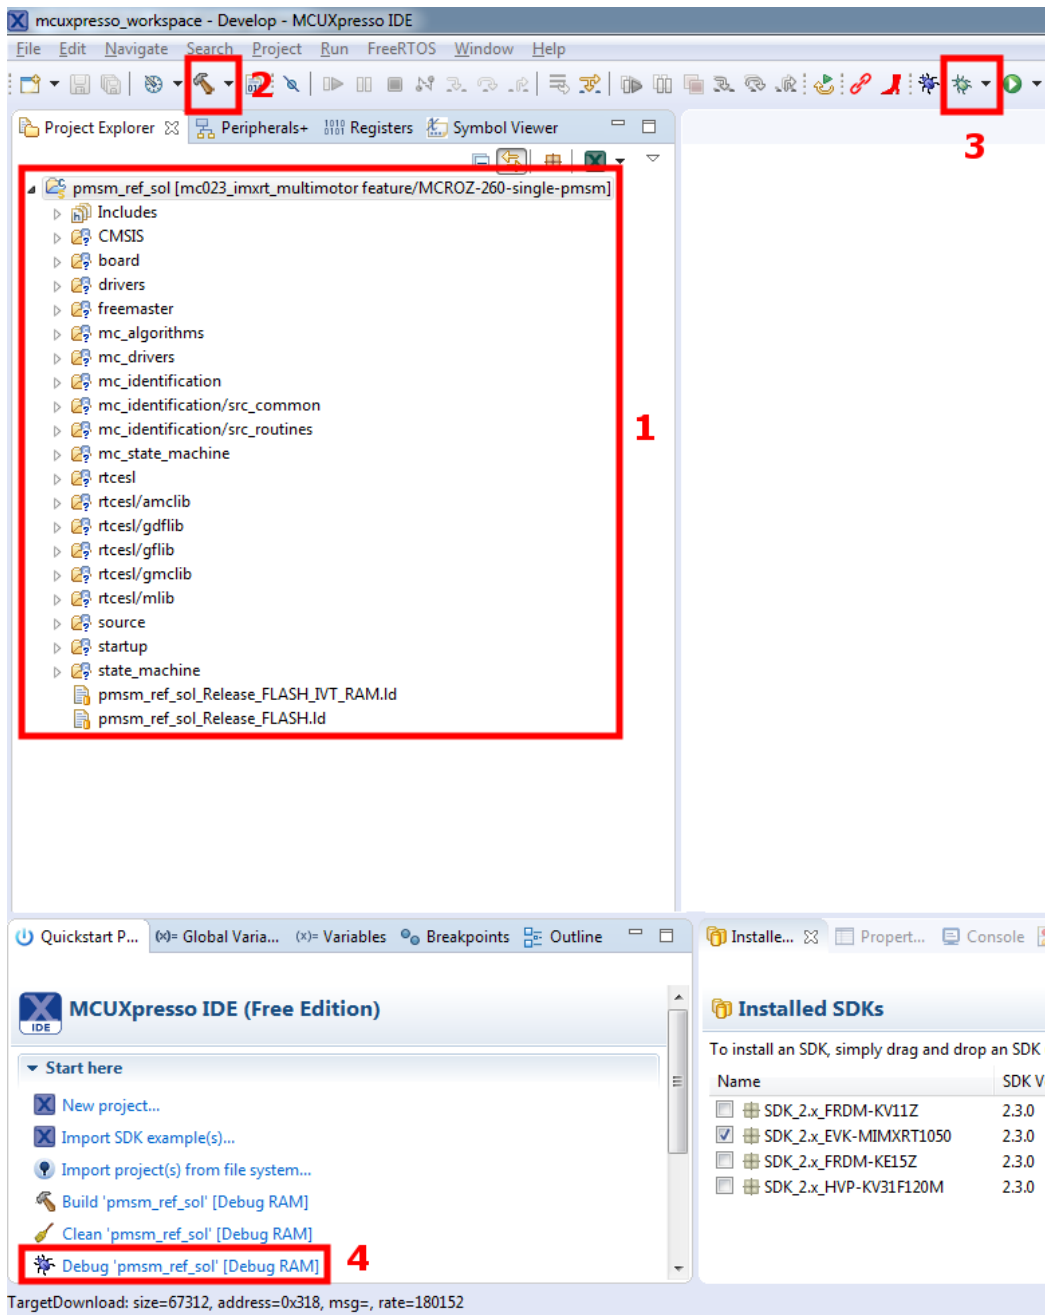
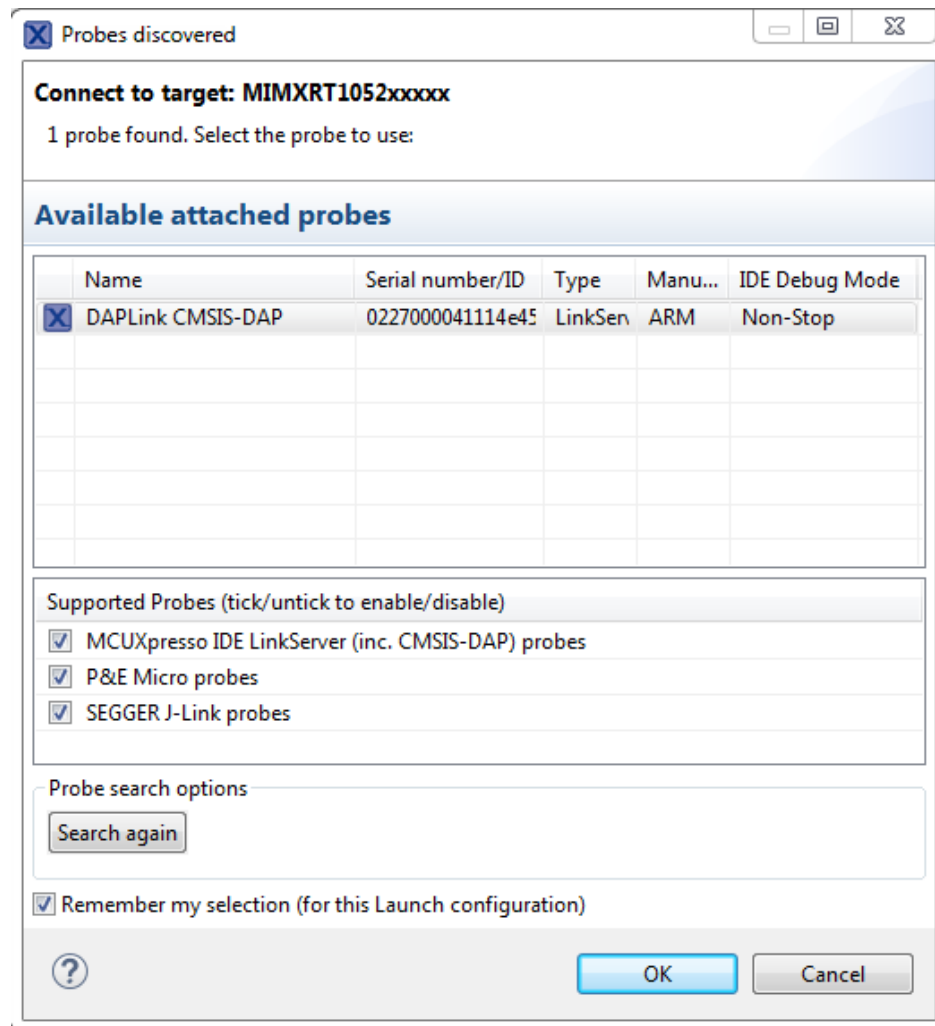

Figure 11. MCUXpresso workspace
Figure 12. MCUXpresso discovered probes
Now you see the MCUXpresso’s workspace with the PMSM project imported (Figure 11). The project in the MCUXpresso IDE is fully configured and includes all necessary source and header files required by the application, such as the startup code, clock configuration, and peripherals configuration.
1. Select the “Debug RAM” build configuration (Point 2 in Figure 11).
2. Click the “Build” button (Point 2 in Figure 11).
3. Create a new debug configuration by clicking the “Debug” button (Point 4 in Figure 11). A new window with the discovered probes appears (see Figure 12). Choose “DAPLink CMSIS-DAP” and click the “OK” button.
4. In a few seconds, the compiled application is downloaded to the MIMXRT1050-EVK’s RAM memory. As shown in Figure 11, the layout is switched to the debugging mode. The program execution stops at the “main” function.